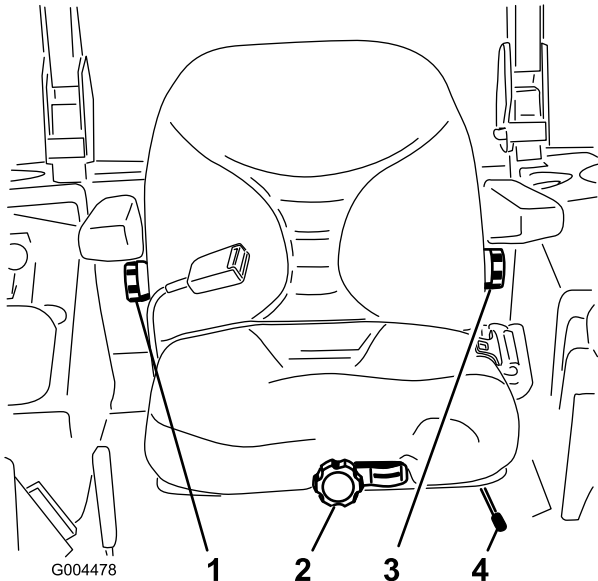

Figure 38
1. To adjust, move the lever sideways to unlock the seat (Figure 38).
Without sitting on the seat, turn the knob in front either direction to provide the best comfort (Figure 38).
To adjust it, turn the knob, under the right-side arm rest, in either direction to provide the best comfort (Figure 38).
To adjust it, turn the knob, under the left-side arm rest, in either direction to provide the best comfort (Figure 38).